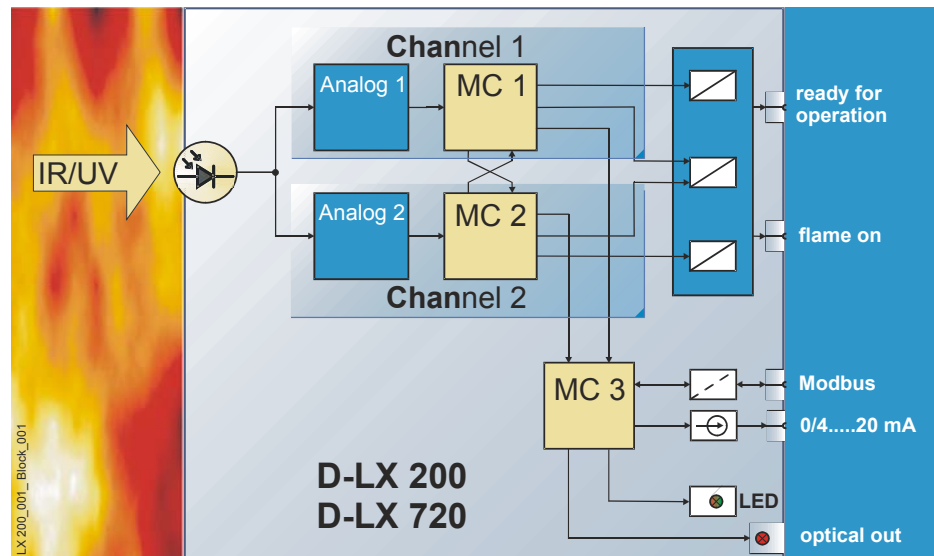

Figure 4.3: Block diagram
The throughout dual-channel design (see Figure 4.3: Block diagram on page 34) allows the elimination of regular interruption of the photoelectric current (shuttering) and mechanical wearing parts.
- A dynamically controlled fault relay with monitoring of the internal operating voltages and all safety-relevant hardware functions (see Figure 4.3: Block diagram on page 34),